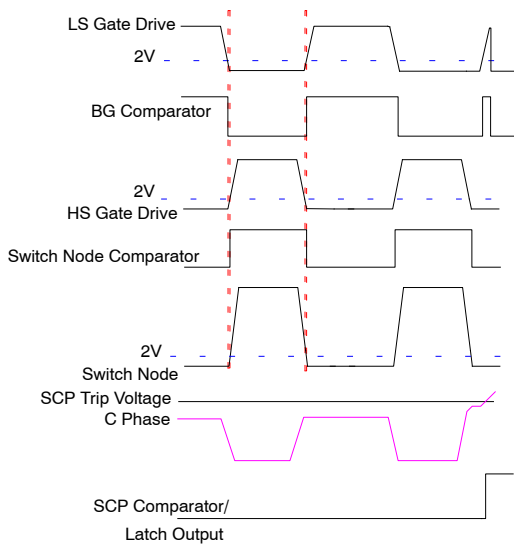

Figure 23. Switching and Current Limit Timing
In case of a short circuit or overload, the low-side (LS) FET will conduct large currents. The low-side $R_{DS(on)}$ sense is implemented to protect from over current by comparing the voltage at the phase node to AGND just prior to the low side MOSFET turnoff to an internally generated fixed voltage. If the differential phase node voltage is lower than OC trip voltage, an overcurrent condition occurs and a counter is initiated. If seven consecutive over current trips are counted, the PWM logic and both HS-FET and LS-FET are latch off. The converter will be latched off until input power drops below the UVLO threshold. The operation of key nodes are displayed in Figure 23 for both normal operation and during over current conditions.